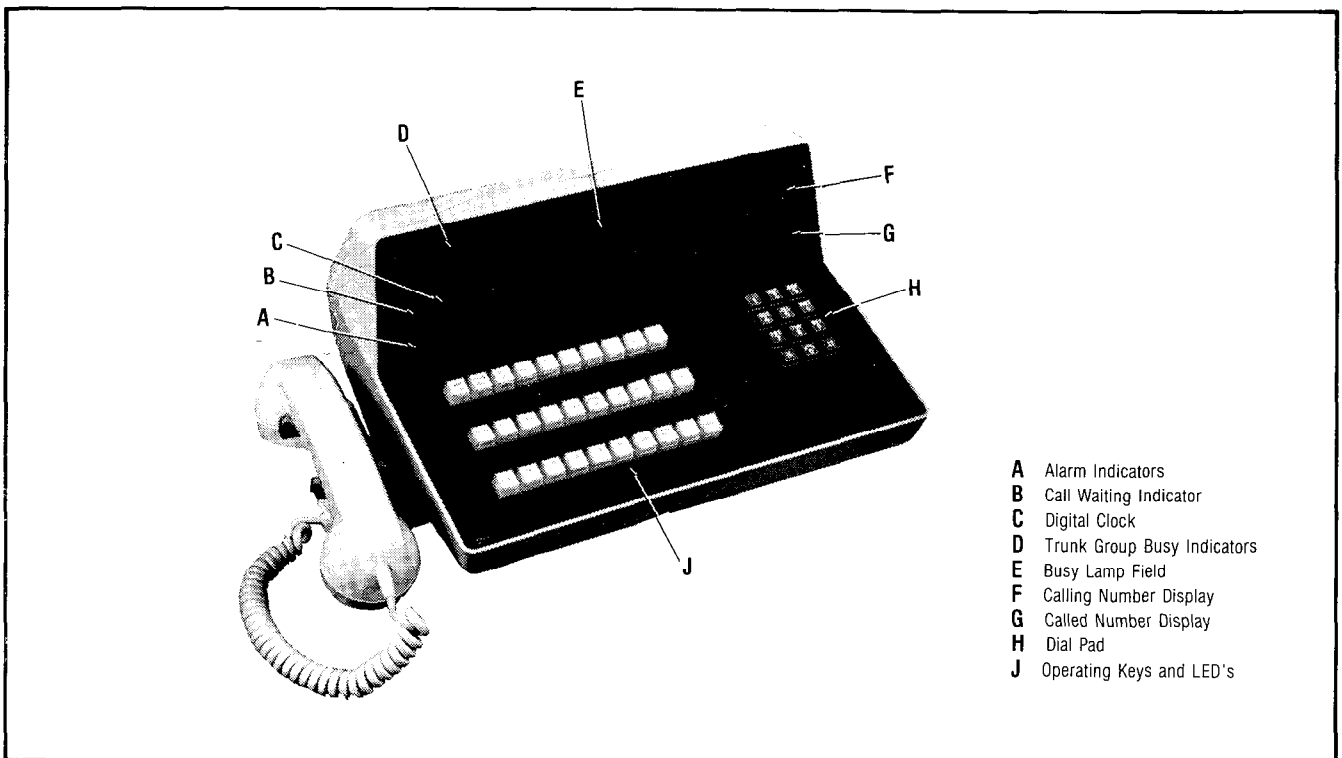

Fig. 4-5 Attendant Console
4.20 Each attendant console (Fig. 4-5) is equipped with a number of maintenance aids and keys which are associated with maintenance functions. The following paragraphs describe the function of each LED and key.